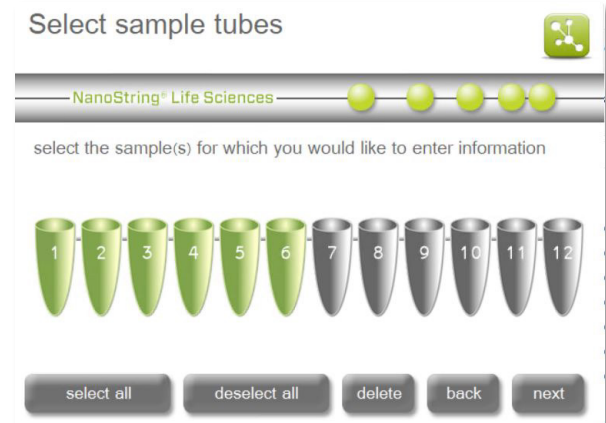

Figure 15: The 'Select sample tubes' screen.
4. The 'Select sample tubes' screen will appear (**Figure 15**). Select the sample positions that will be processed. Green tubes will be processed, and grey tubes will not be processed. If processing fewer than 12 tubes, begin with tube 1. Press **next**.